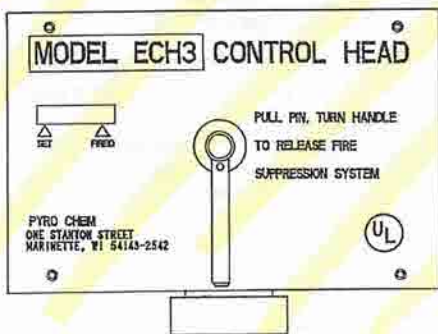

Figure 2-6. Electric Control Head.
The Model ECH3 electric control head is an electrically operated control head which can be connected to the PCI-15/17/25s/35/50s/70 cylinder valve. This control head will support an electric thermal detection system, a remote mechanical pull station (Model RPS-M), and an electric gas shut-off valve. It will not support a fusible link detection system. A micro switch (Model MS-DPDT) is included. The Model ECH3 control head is available in both 120 VAC (Model ECH3-120) and 24 VDC (Model ECH3-24). It is equipped with a local manual control handle that allows for mechanical system actuation. Operation of the local manual control requires removing the pull pin and rotating the handle clockwise. The Model ECH3 control head can actuate a maximum of five (5) cylinders. See Figure 2-6.